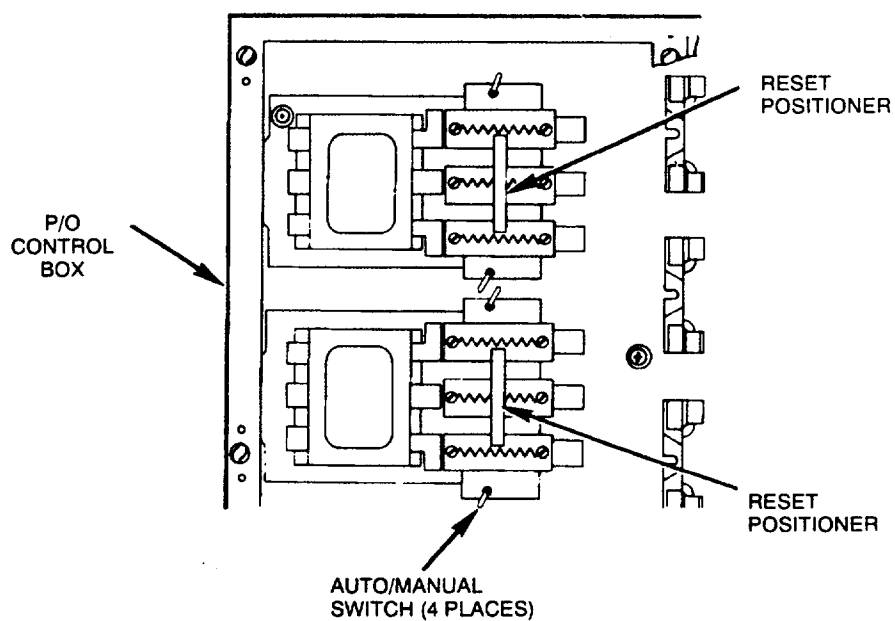

Figure 4-16. Fan Contactors (K8 and K9) Switches
- j. Fan Contactors (K8 and K9). Set four AUTO/MAN switches to MAN (see Figure 4-16).